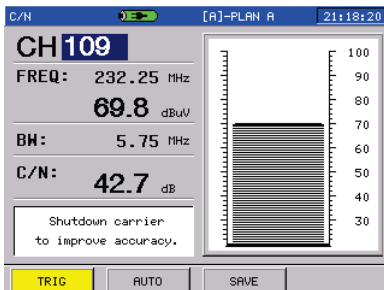

Figure 3-6-2
**HOLD(F1)**: Press HOLD soft key, the waveform scanning will pause, and **F1** will change into TRIG. Press TRIG will restart scanning as Figure 3-6-2.